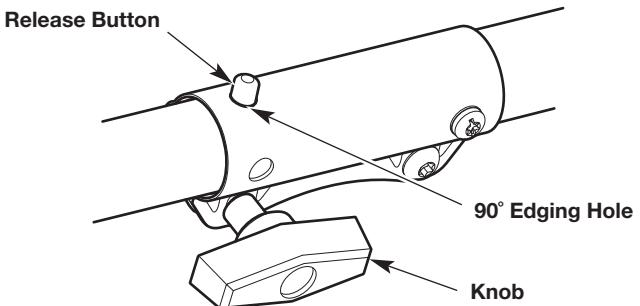

Fig. 25
1. Turn the knob counterclockwise to loosen the coupler (Fig. 25).
2. Press and hold the release button (Fig. 25).
3. Rotate the attachment until the release button snaps firmly into the 90° edging hole (Fig. 25).
4. Turn the knob clockwise to tighten the coupler (Fig. 25).